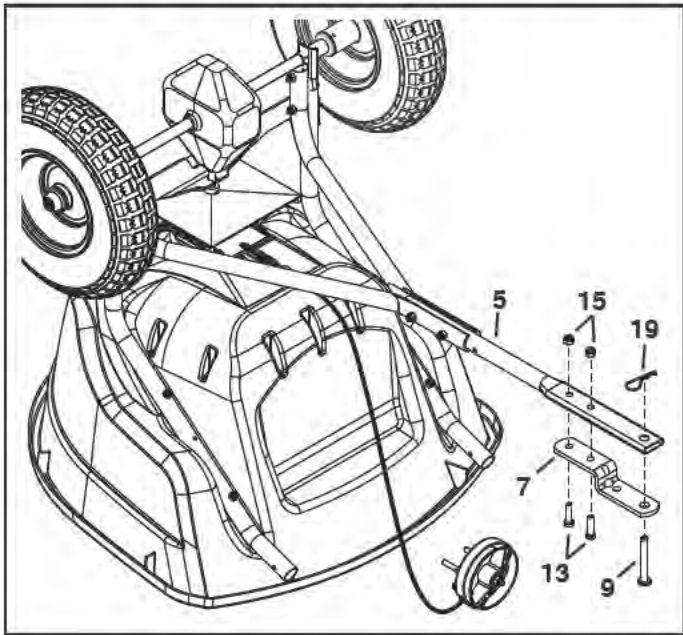

FIGURE 4
STEP 4: (SEE FIGURE 4)
- Attach the hitch bracket (7) to the hitch tube (5) using two 5/16" x 1-1/4" hex bolts (13) and 5/16" nylock nuts (15).
- Assemble the hitch pin (9) to the hitch tube and hitch bracket and secure it with the hair cotter pin (19).